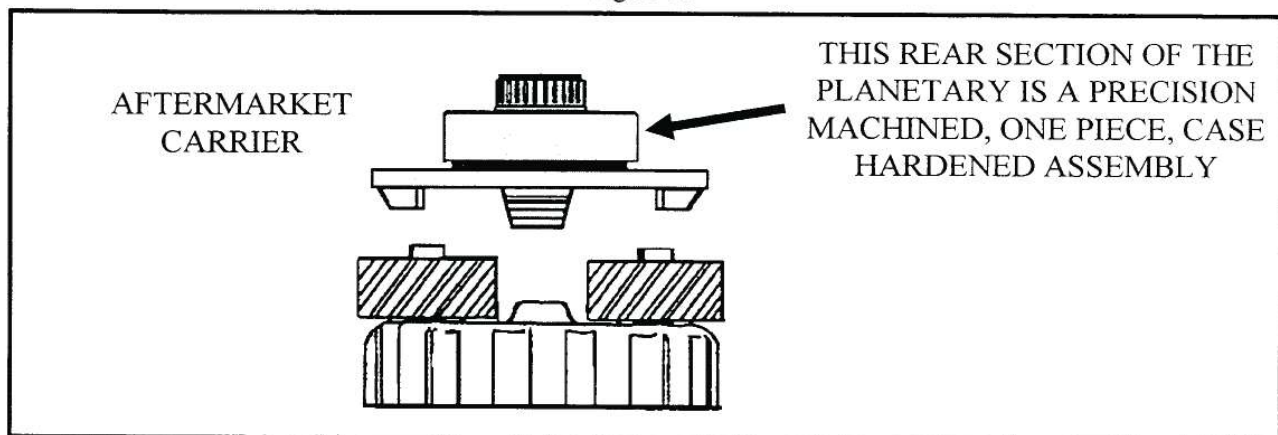

Figure 20
**CORRECTION:** Replace the overdrive carrier. Remanufactured "HEAVY DUTY" planetary carriers are available from aftermarket suppliers (See Figure 20).